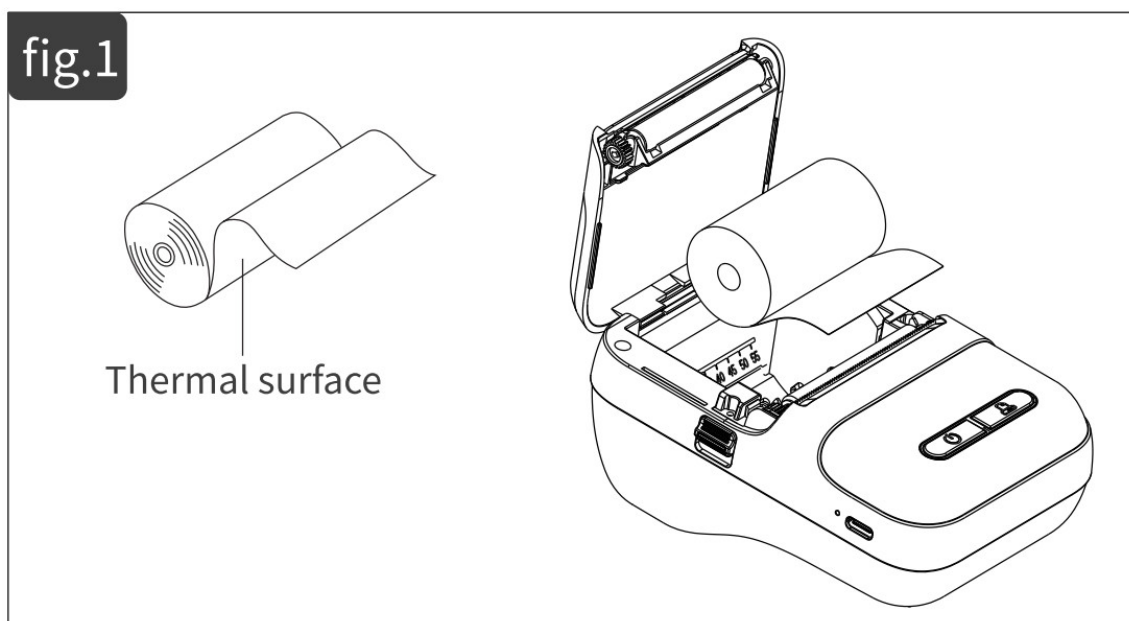

fig.2
2. There's a blue spool holder bracket that should be snug against the paper. Push forward to lock the paper before printing, and push back to unlock (fig.2)
Clickinstallimmediately” fig.2)